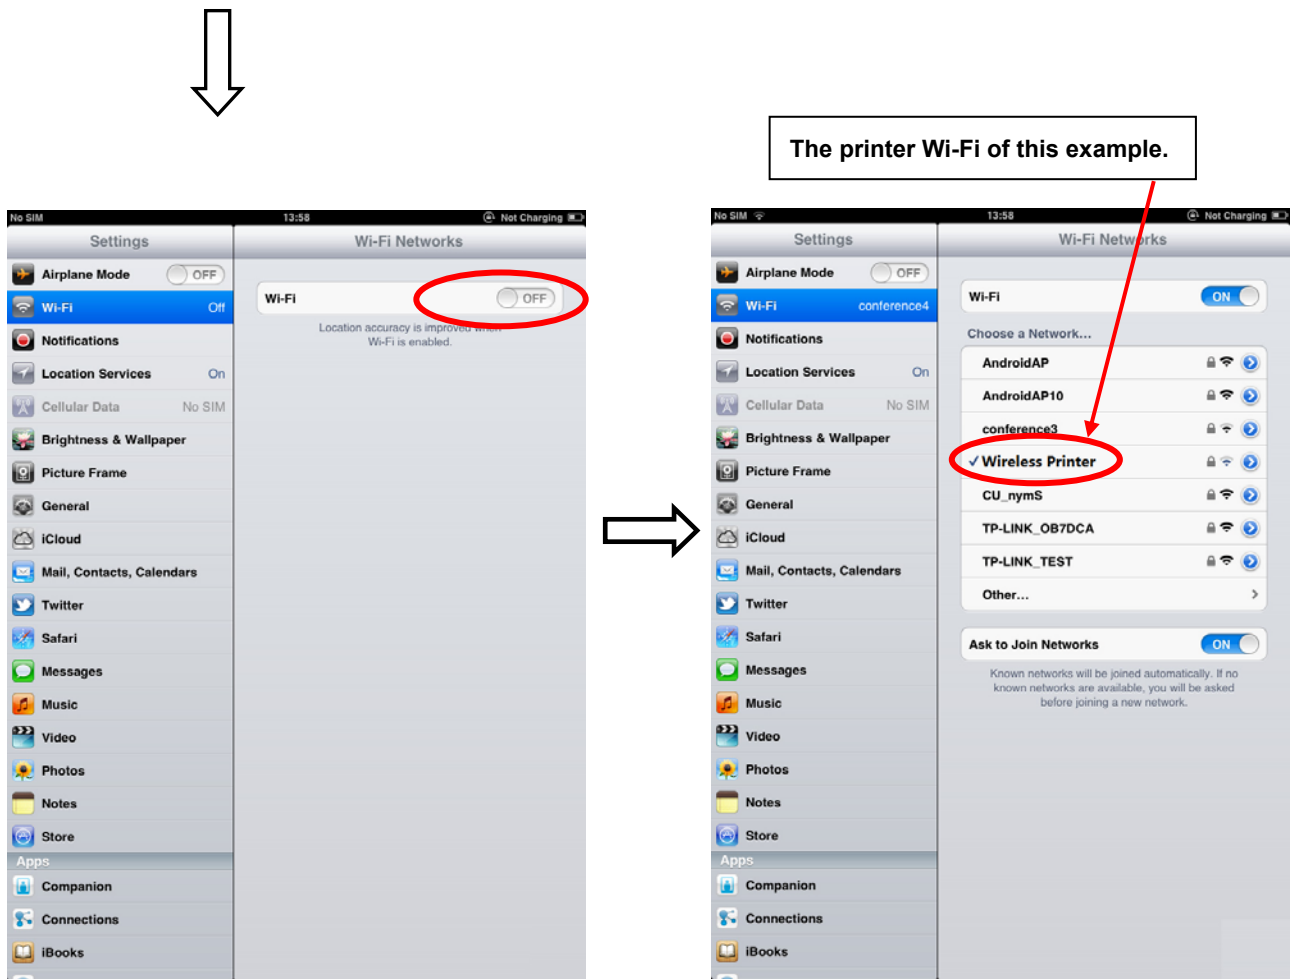

Figure 3
2. Click "Settings" and the interface pops up. Select the "WLAN" function to "ON", then click the printer Wi-Fi searched by the mobile phone to connect. The printer Wi-Fi default name is composed of "the printer model+10 SN numbers" (as shown in Figure 3).